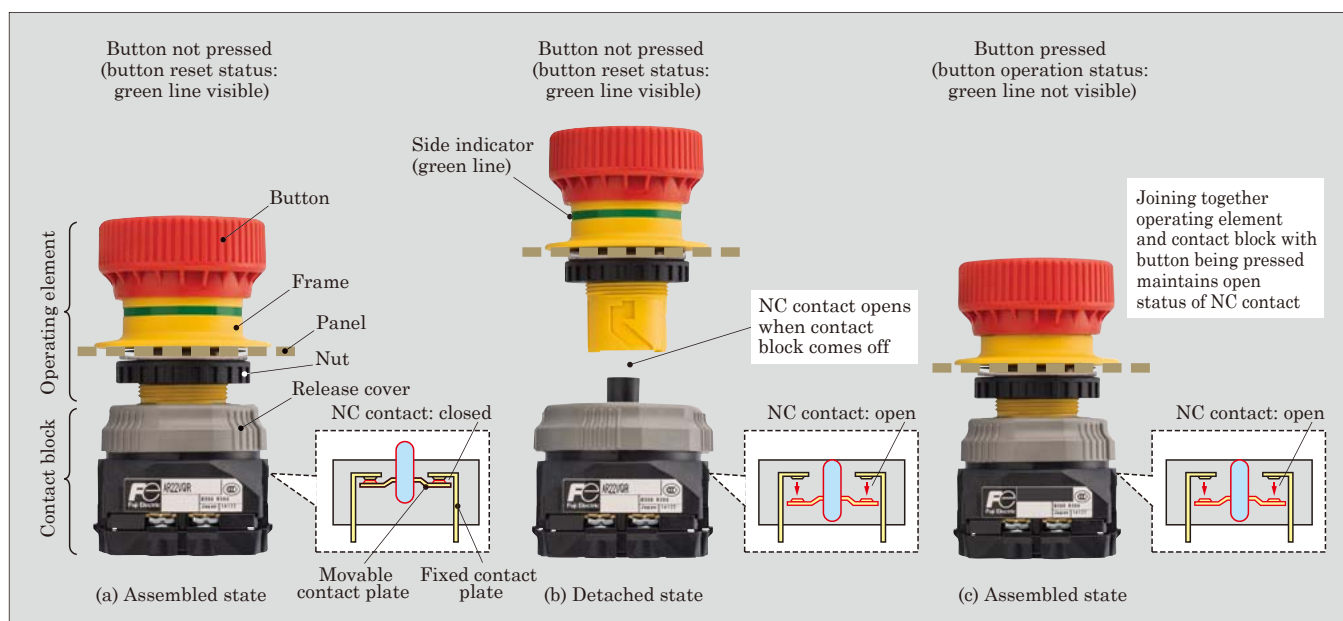

Fig.1 Safety functions offered with "Synchro Safe Contact"
Figure 1 shows the mechanism for safety functions provided by Synchro Safe Contact. The new series has a structure where the operating element, which includes an operation button and a set of a frame and nut for panel mounting, and the contact block, which has internal electric contacts, exist independently; and these two are joined together for use (see Fig. 1 (a)).
Figure 1 (b) shows the appearance of the switch with the operating element and contact block detached as the button is not pressed and status change of the normally-closed (NC) contact. Conventional emergency stop switches have a structure in which the NC contact is closed when the operating element and contact block are detached. Accordingly, with this structure, there is a risk that the device/machine may start when the operating element is detached from the contact block, regardless of the status of the button. To address this problem, we have provided the new series with a structure in which the NC contact is always open when the operating element and contact block are detached. Rotation from the spring force of the release cover of the contact block and the internal part coupled with it work together to cause the NC contact to be activated at the same time as the detachment of the contact block. This forces the NC contact to open even when the contact block comes off so the device/machine will not start.
Figure 1 (c) shows the appearance with the operating element and contact block joined together as the button is being pressed and the status change of the NC contact. When the operating element and contact block are detached, joining together the operating element and contact block with the button being pressed (button activated status) does not cause the button to be reset and NC contact of the contact block remains open, ensuring the safety of the worker. To restart the device/machine, it is necessary to carry out an operation to restore the state in which the button is not pressed (button reset status).
- Synchro safe contact: the NC contact is opened when the contact block is detached from the operating element (see Fig. 1).
- Side indicator: shows whether the button is in the activated or reset status as seen from the side of the button (see Fig. 1).